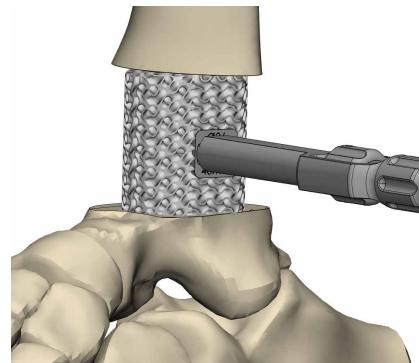

Fig. 11
**11.** Place the Ossera™ AFX into the surgical site such that the central hole of the Ossera™ AFX is aligned with the reamed tibial canal in the anterior and lateral views as verified under fluoroscopy. Use the inserter attached to the Ossera™ AFX to maintain implant position during nail insertion to minimize contact of the nail with the central hole of the Ossera™ AFX. (fig. 11).